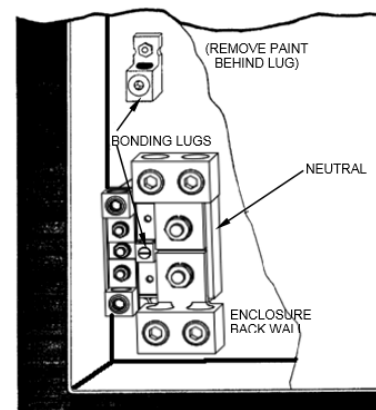

Figure 2 – Typical installation of TNI66C Neutral Kit
Step 2. Mounting neutral block to enclosure as shown in Figure 2. Torque fasteners to 20-24 in-lbs.
Step 4. Install bonding lugs as shown in Figure 2 (if required). Remove the paint on the enclosure where the bonding lug will be installed. Torque mounting fastener to 25-30 in-lbs. Install bonding jumper (not provided) between bonding lugs and torque lug screws to 45 in-lbs (size jumper wire according to the National Electric Code).